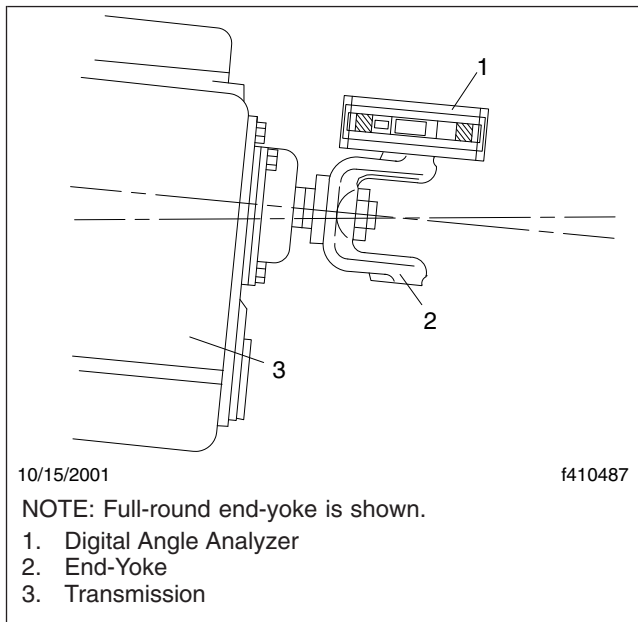

Fig. 3, Measuring Pinion Angles
10. Without changing the position of the end-yoke, turn the DAA until it is parallel to the frame centerline. See **Fig. 3**. Record the measured angle of the pinion.